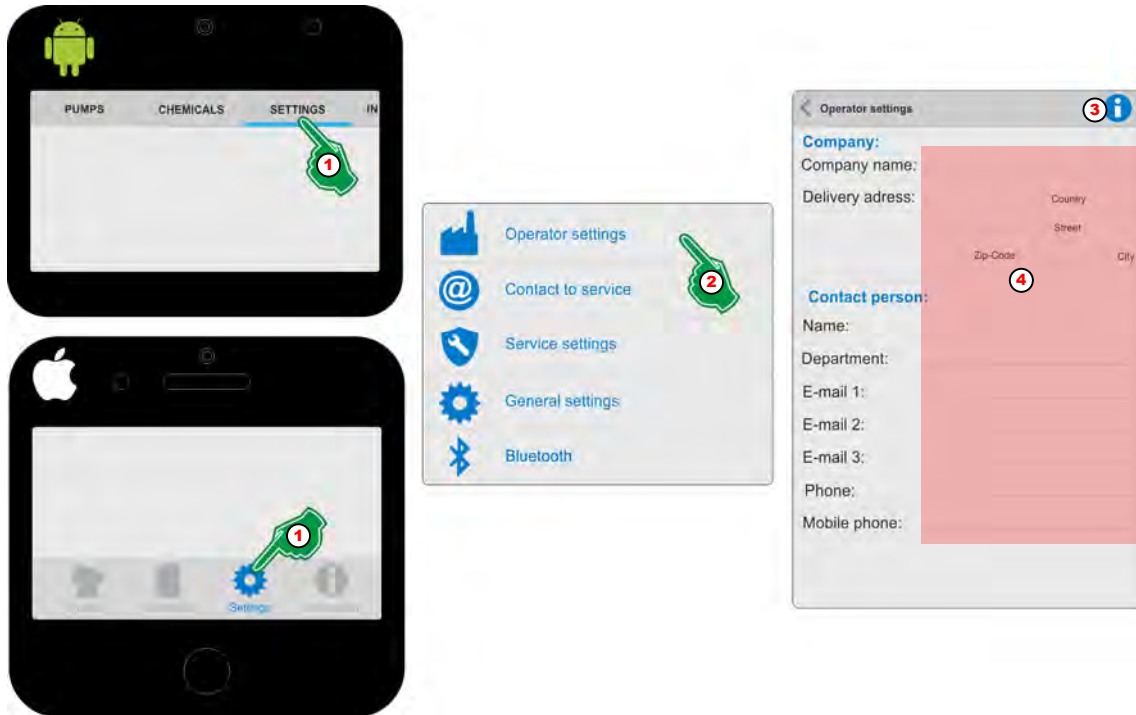

Fig. 3: Connect a pump which is protected by an 'access code'
1.  Select [Settings] (Fig. 3, Pos. 1).
2.  Select [Operator settings] (Fig. 3, Pos. 2).
3.  With the selection of the [Info]  Symbol (Fig. 3, Pos. 3), the display will be:
4.  Fill in all form fields (Fig. 3, Pos. 4).